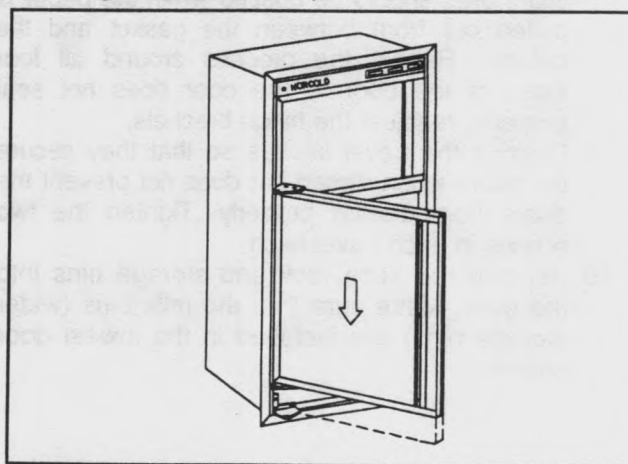

Figure 21
9. Turn the door over so that the end previously at the bottom is now at the top. Relocate the bottom of the door on the bottom hinge pin shoulder. Close door and align holes in top hinge brackets. The magnetic gasket will hold the door in place. Before reinstalling the top door, check to insure that the spacer is in place. (See Figures 21 and 23C)